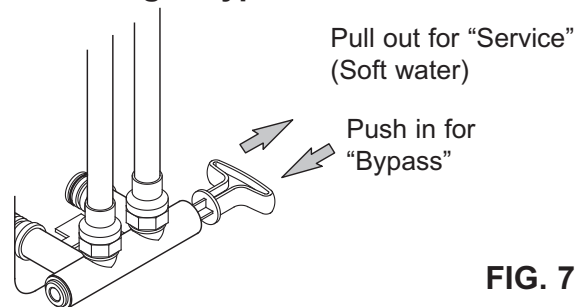

FIG. 7
Always install either a single bypass valve (provided), as shown in Figure 7, or, if desired, parts for a 3 valve bypass system (not included) can be purchased and assembled, as shown in Figure 8. Bypass valves allow you to turn off water to the softener for maintenance if needed, but still have water in house pipes.
2. Place the single bypass valve or 3 valve bypass in "bypass" position. See Figures 7 & 8.